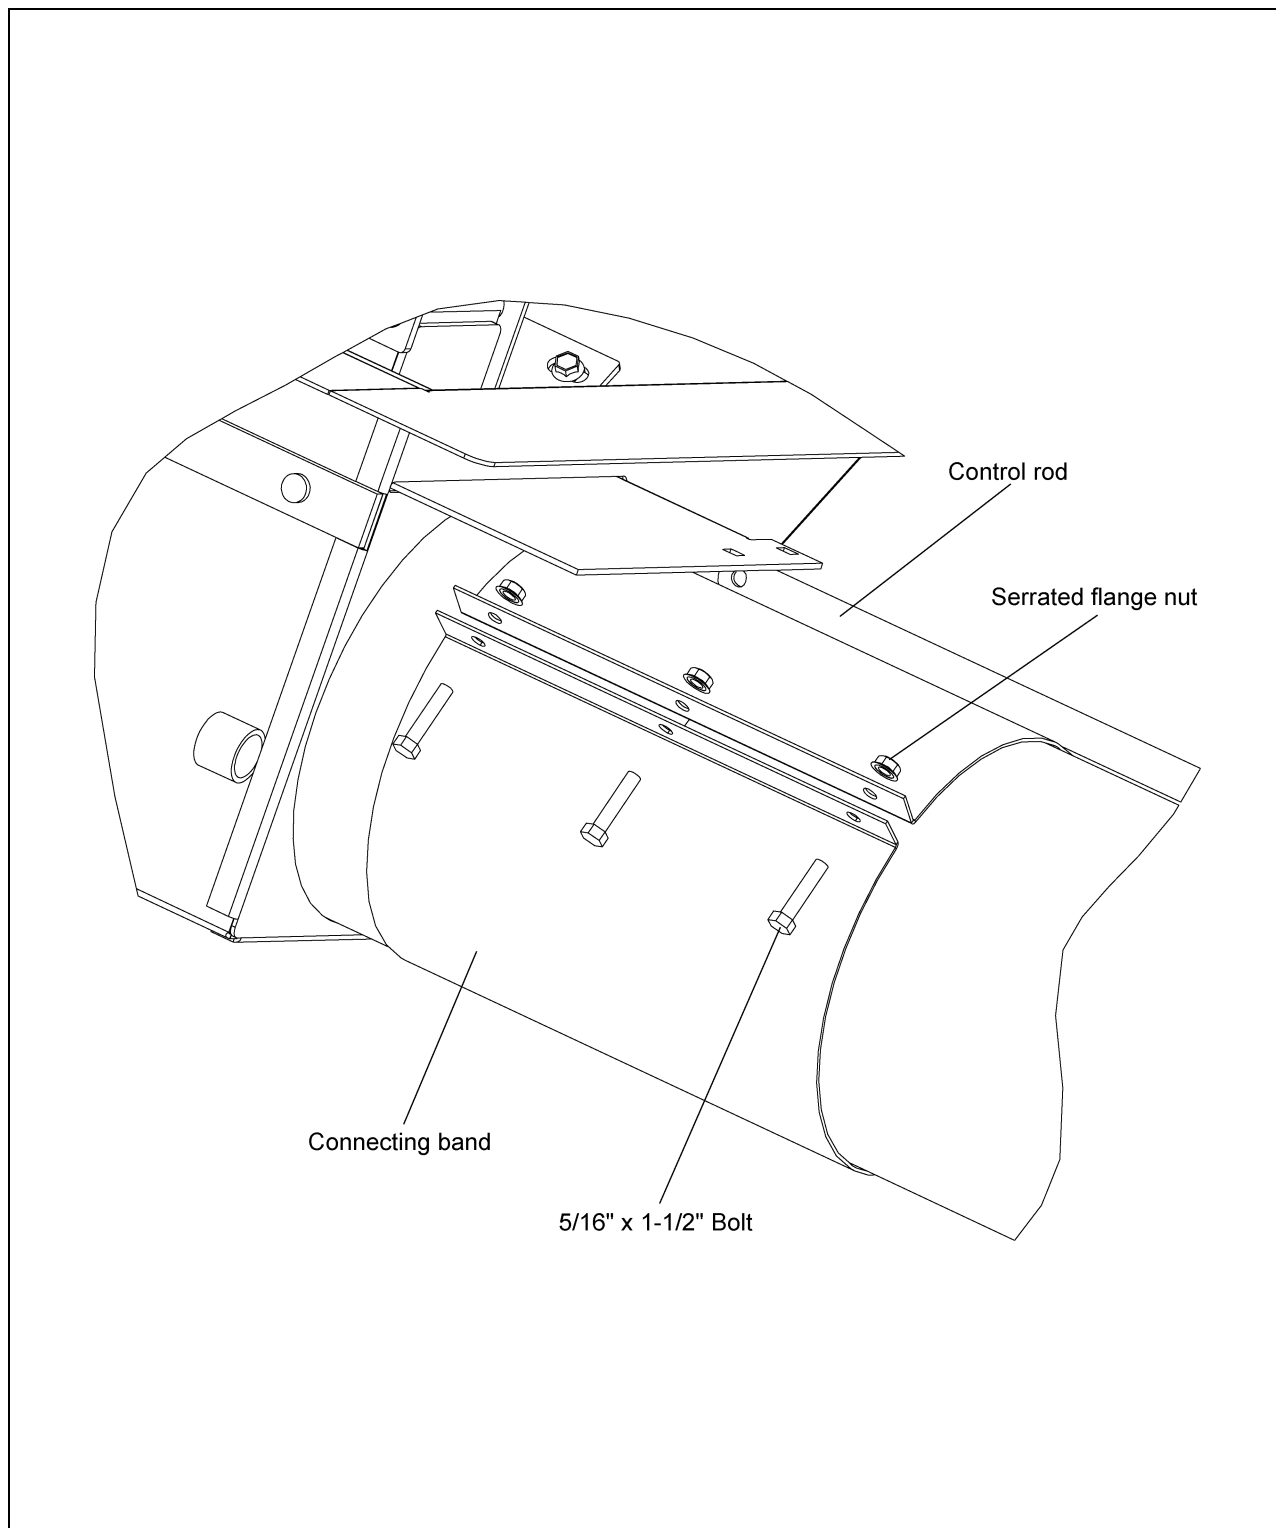

Figure 4J
- Slide the connecting band until it is equally positioned over both the unload tube and the center well tube. Position the connecting band so that it will not interfere with the control rods. (See Figure 4J.)